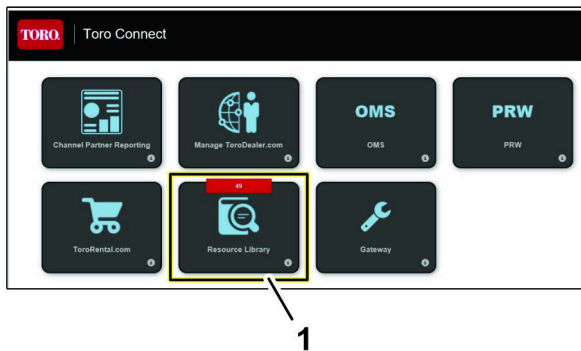

Figure 14
1. Access the Toro Connect web page (Figure 14).
2. Left click the Resource Library icon (Figure 14).